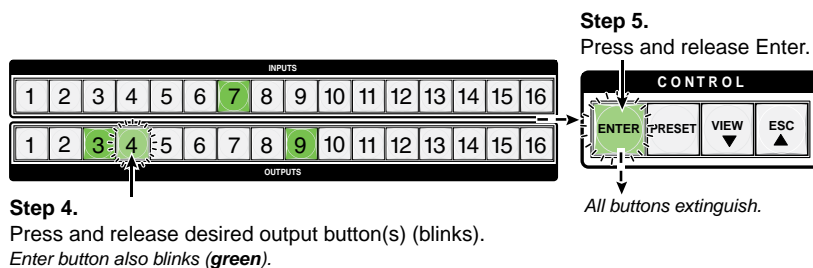

Figure 3-4 — Select the output(s), then press Enter
- Press and release output buttons (figure 3-4). The selected output buttons blink. The enter button blinks green.